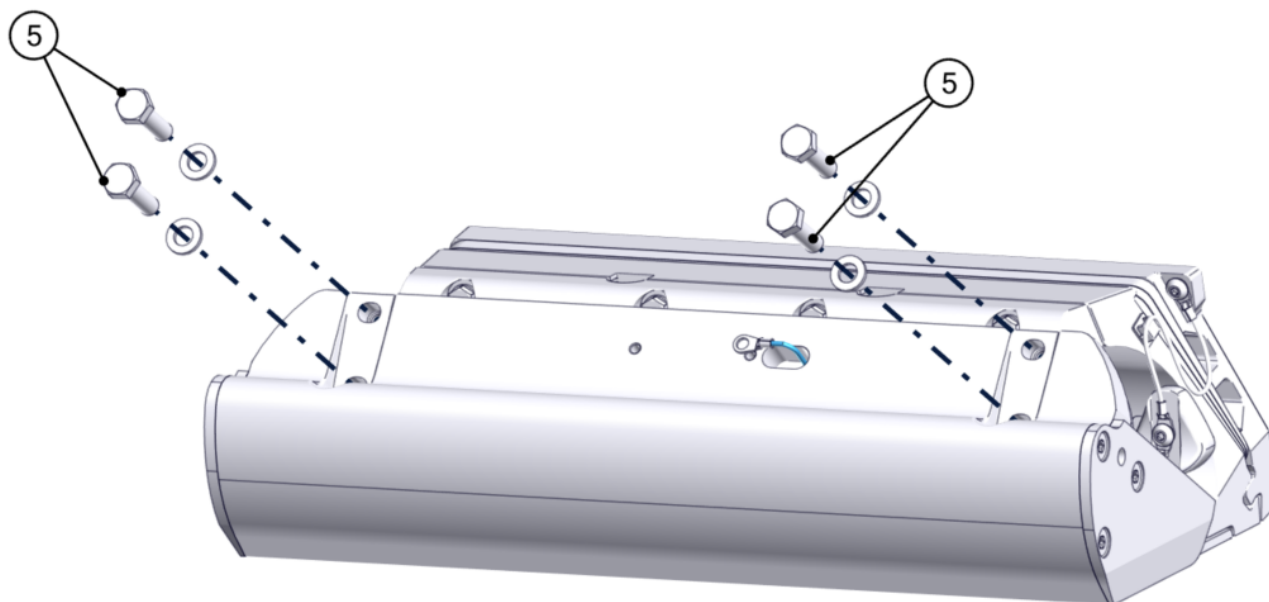

Figure 72 – Blade Installation
15. Install the Blade to the Actuator Arms using the four (4) M8-1.25×20 mm screws and their washers. Before torquing the bolts, push the Actuator Arms firmly down against the Blade supporting edge. Torque these four (4) bolts to 80 in-lbs (9.0 N-m) in an 'X' pattern (Figure 72 – Blade Installation).